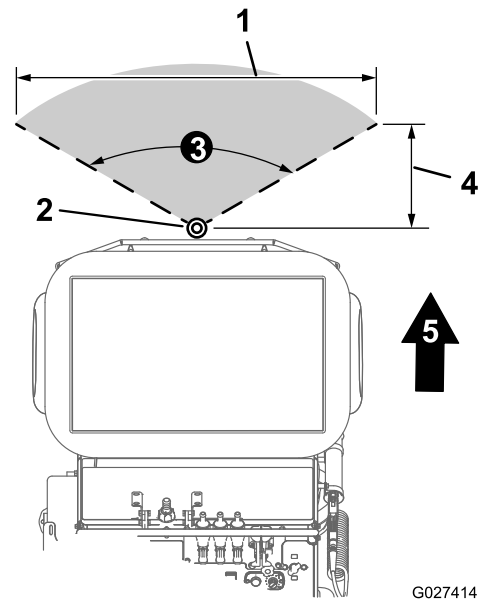

Figure 49
- The narrow-spray pattern (Figure 49) on the machine is **122 cm (48 inches)** wide.